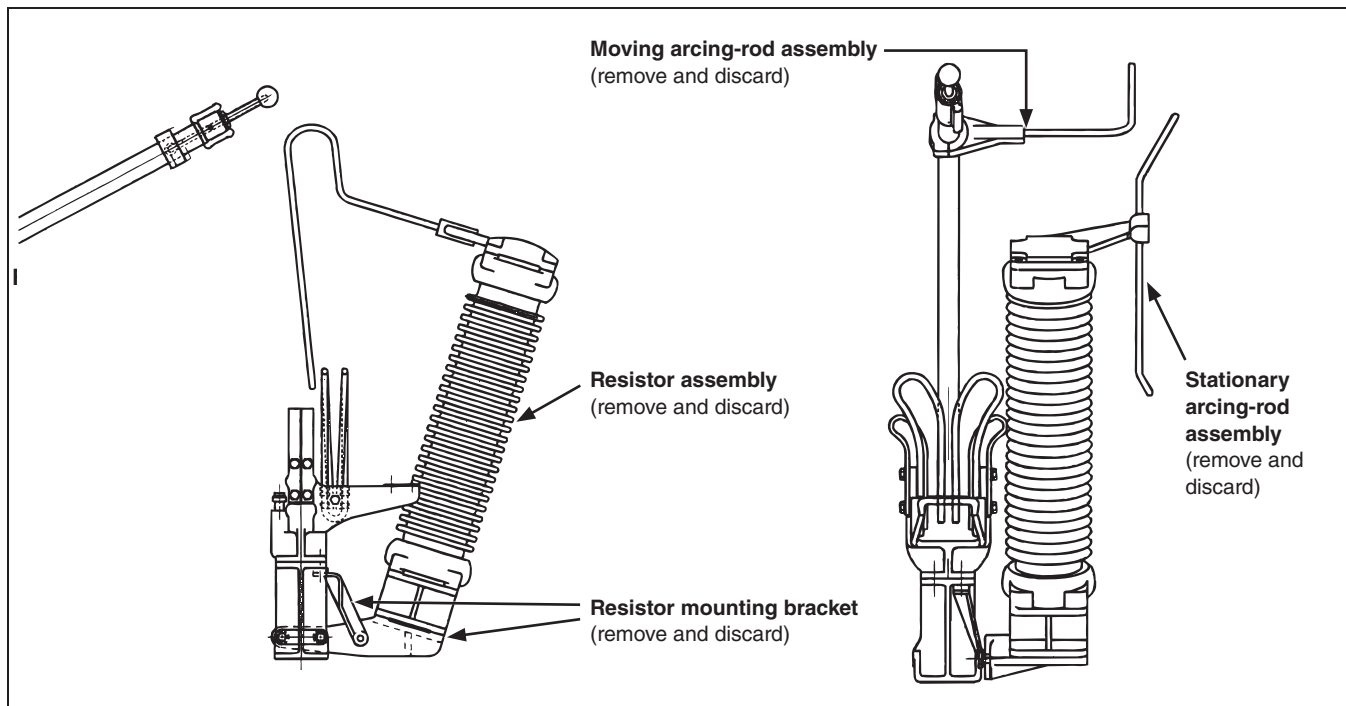

Figure 2. Removal of existing pre-insertion resistors on 115-kV and 138-kV vertical-break style circuit-switchers.
*For pre-insertion resistors on 115-kV and 138-kV vertical-break style circuit-switchers, refer to Figure 2 on page 6.*